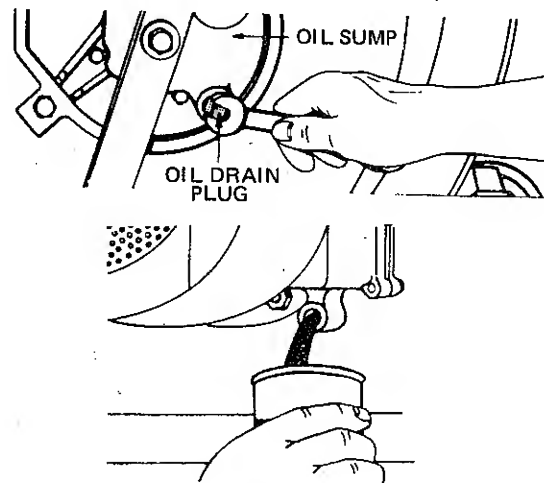

Figure 13
- CHANGE OIL** every 25 hours after first change of 5 hours. Oil may be drained through oil drain on bottom of engine (Figure 13) or oil fill hole. When draining through oil fill hole, empty fuel tank or keep engine spark plug side up.